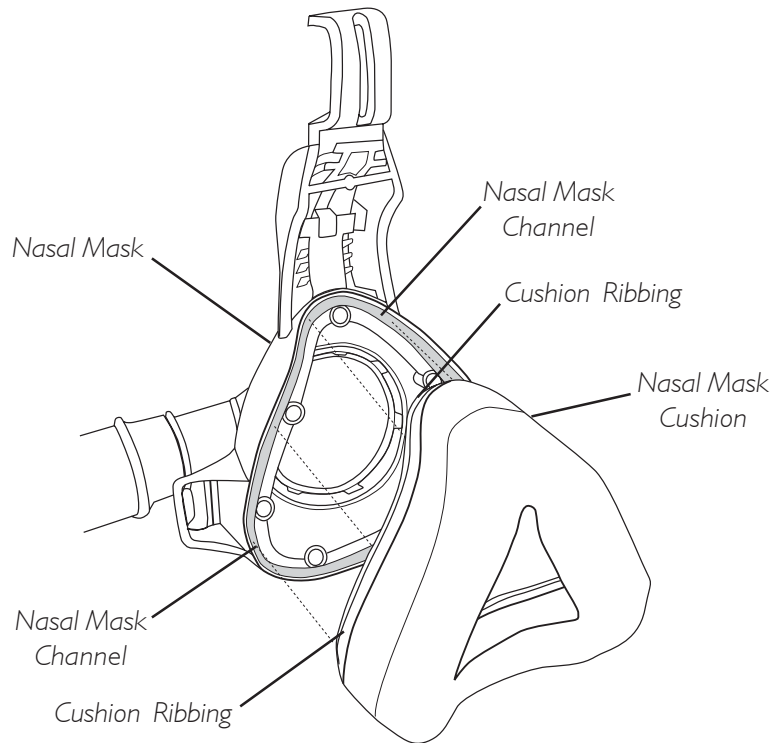

FIGURE 3 - DISASSEMBLING/REASSEMBLING THE NASAL CUSHION TO THE MASK SHELL
DISASSEMBLING/REASSEMBLING THE NASAL CUSHION TO THE MASK SHELL (FIGURE 3)
1. Remove the nasal cushion by slowly pulling it out of the nasal mask channel. Refer to FIGURE 3.